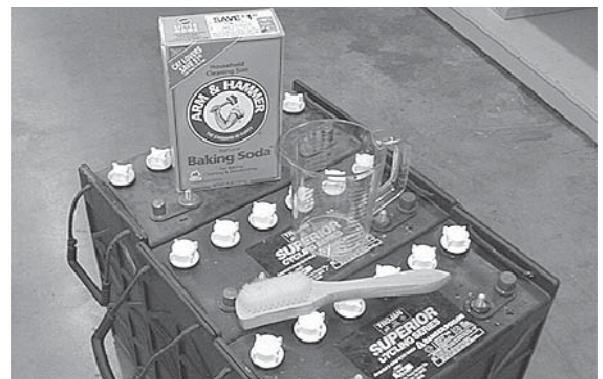

FIG. 34
- a. Mix a strong solution of baking soda and water (Figure 34).